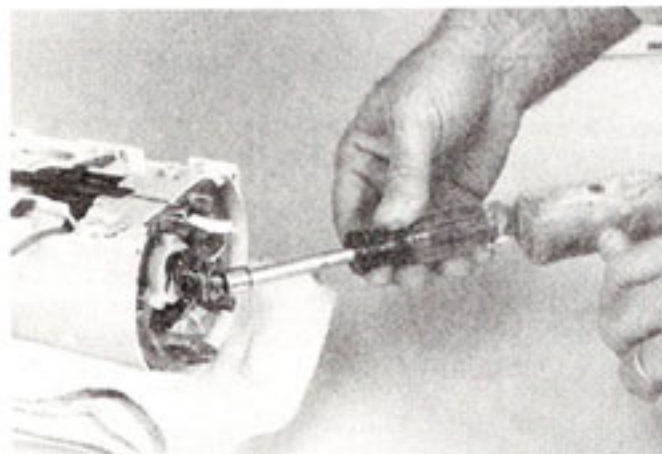

Fig. 48
**CAUTION:** Do not drive against the ball as this will cause damage (Fig. 48).